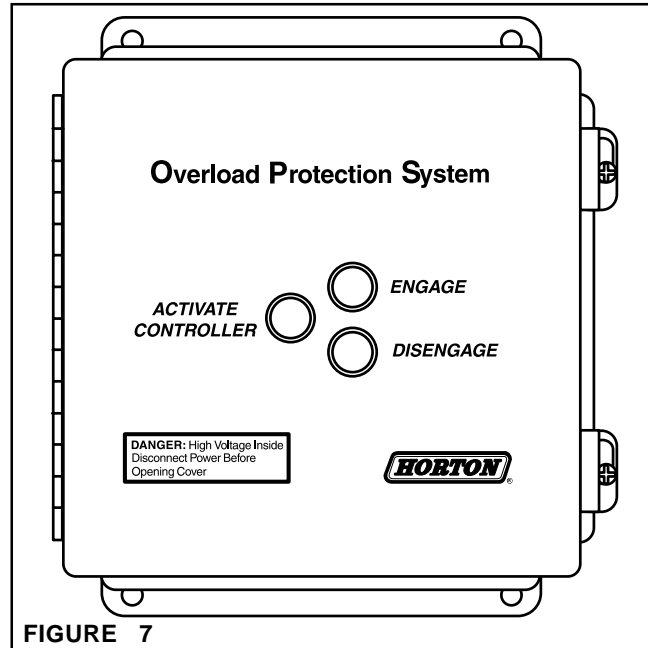

FIGURE 7
1. Press the **Activate Controller** push-button (See Figure 7). Verify the push-button remains depressed and built-in indicator lights up. This supplies DC power to the control logic and sensors.
2. Press the **Engage** push-button to engage the clutch (See Figure 7). Verify the push-button returns from being depressed and its built-in indicator lights up. When this push-button is depressed, the K1 relay will energize and engage the clutch while the K2 relay deenergizes. A four second delay will occur before the OPS controller begins checking for slip. This delay allows time for the clutch to engage the load and prevents nuisance tripping at startup.
3. Press the **Disengage** push-button to disengage the clutch (See Figure 7). Verify push-button returns from being depressed and its built-in indicator lights up. When this push-button is depressed, the K1 relay will deenergize and disengage the clutch while the K2 relay will energize. K2 can be used for an external alarm or indicator. Anytime a slip is detected, the OPS controller will automatically perform the same function as depressing the **Disengage** push-button.